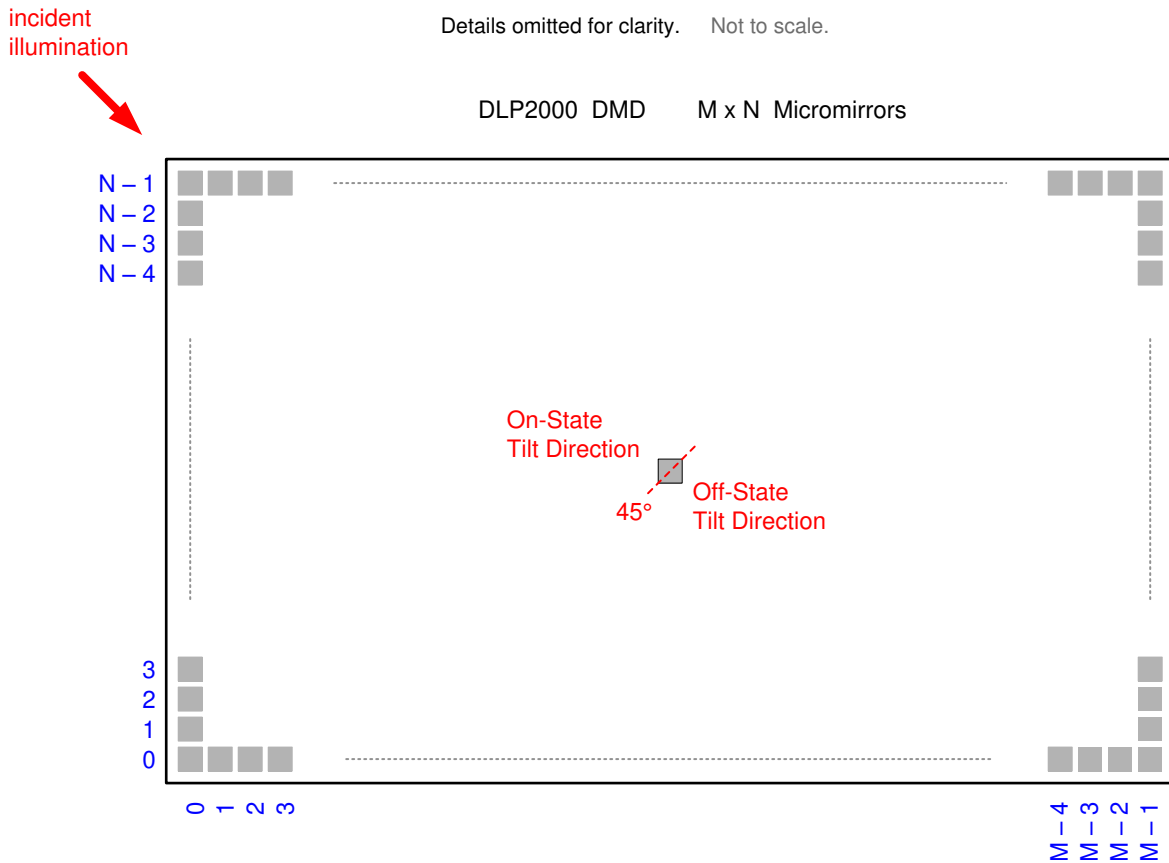

Figure 6-9. Landed Pixel Orientation and Tilt
- (1) Limits on variability of micromirror tilt half angle are critical in the design of the accompanying optical system. Variations in tilt angle within a device may result in apparent non-uniformities, such as line pairing and image mottling, across the projected image. Variations in the average tilt angle between devices may result in colorimetry and system contrast variations. The specified limits represent the tolerances of the tilt angles within a device.
- (2) See Figure 6-9.
- (3) Conditions of acceptance: All DMD image quality returns are evaluated using the following projected image test conditions: